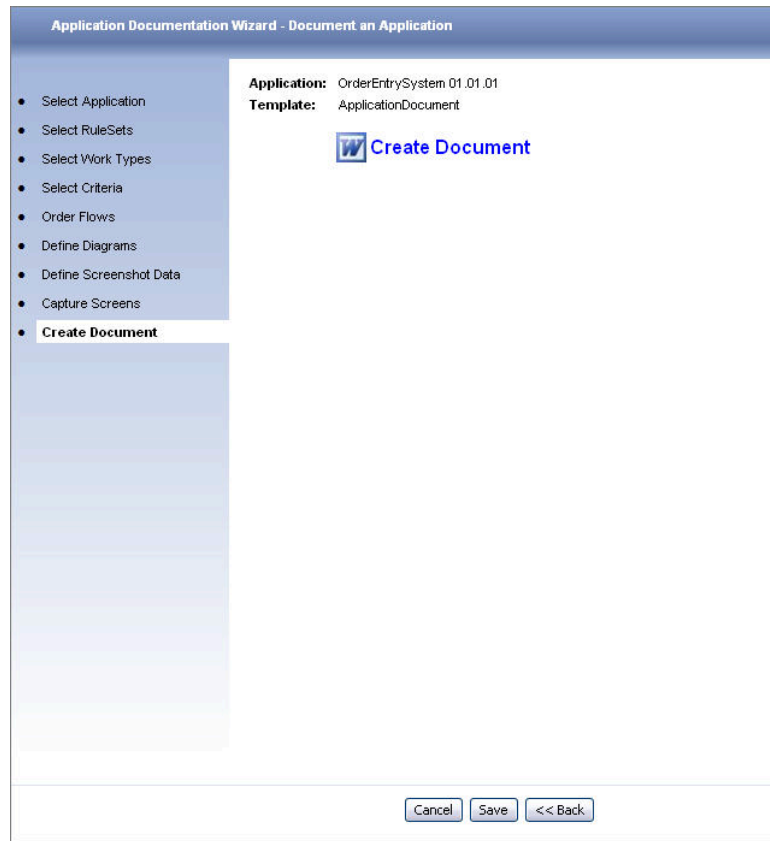

Figure 6-3. Create Document
2. Click the Create Document button. Process Commander creates a Word document listing all the rules in your application. This may take a minute or two (Figure 6-3).